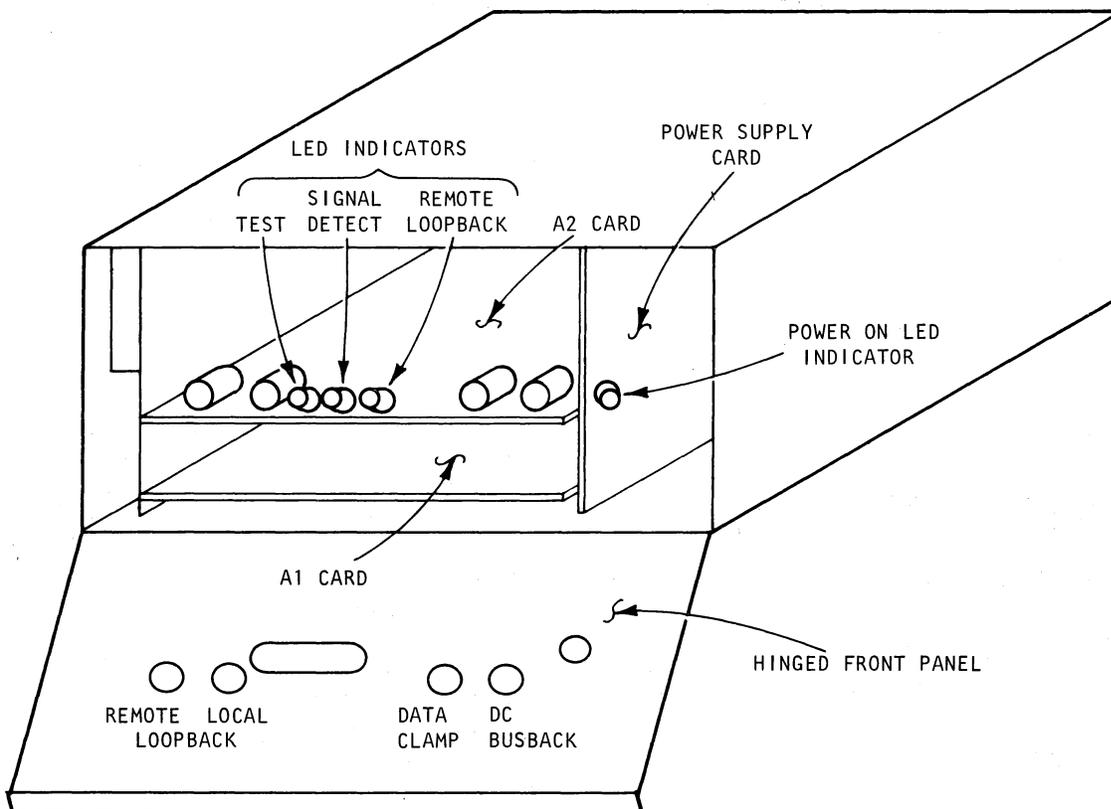

Figure 2-1. Control/Indicator Locations
2.01 All controls and indicators are accessible from the front panel of the LADS. Access to the diagnostic test switches (all located on card A2) is obtained by lowering the hinged cover on the front panel (see Figure 2-1). The diagnostic indicators (LED's) also are located on card A2, and the POWER ON indicator (LED) is located on the power supply card. All indicators are visible through the front panel with the hinged cover shut. The function of each control and indicator is described in Table 2-1.